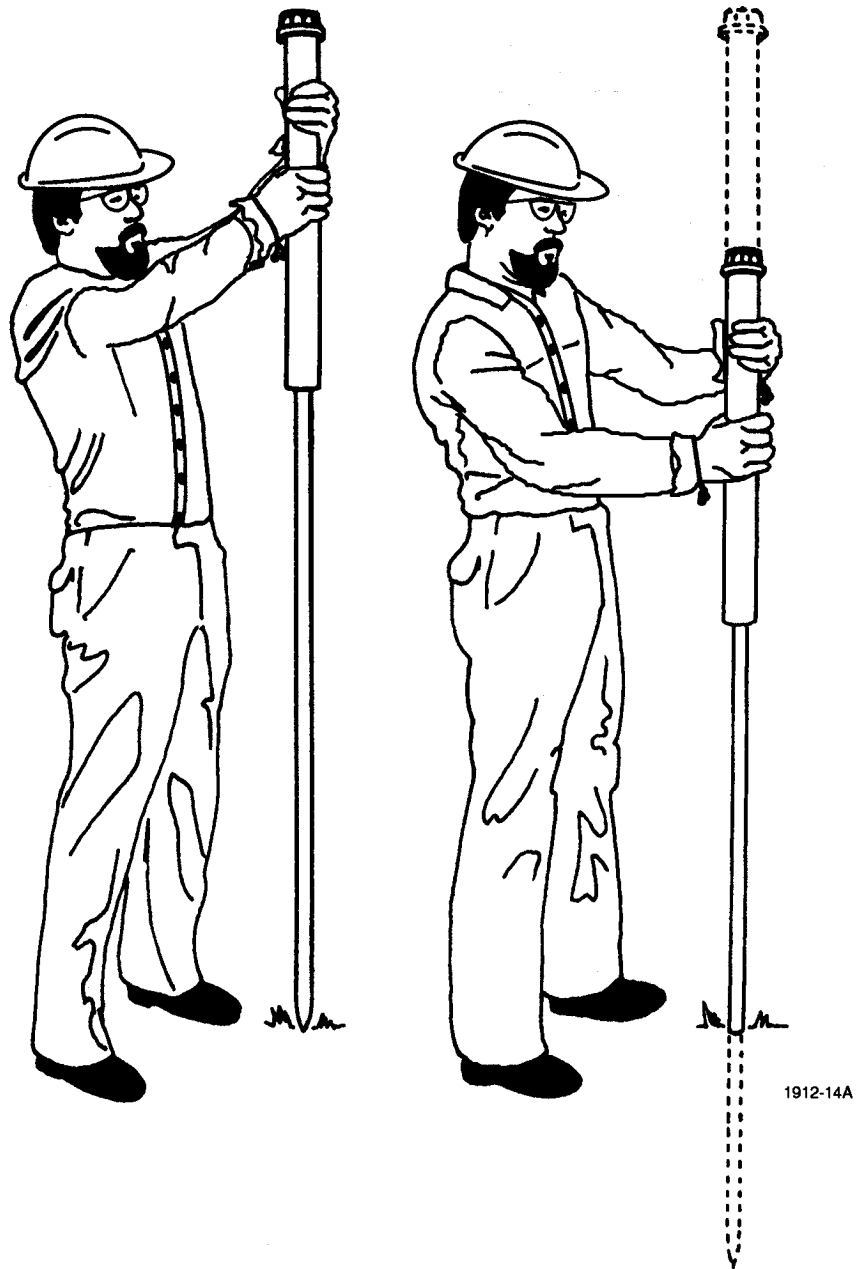

Figure 2-14. Driving Ground Rod With Water Pipe
- b. The RF-1913 installation kit contains a sledgehammer for driving the stakes and ground rods. If there is no sledgehammer available, or if it is difficult to start the ground rod, cap one end of a 3 foot length of 1-1/2 inch diameter water pipe (not supplied). Slide this pipe over the top of the ground rod. See figure 2-14. Raise and forcefully lower this water pipe repeatedly, while still encasing ground rod to drive it into the ground.